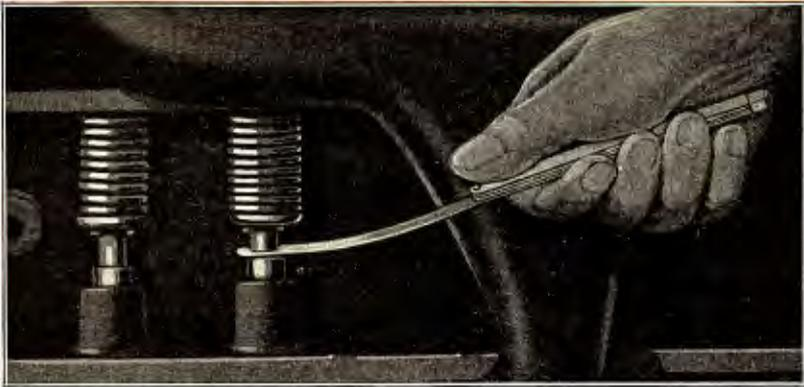

Fig. 225
- 372** After grinding the valves, the clearance between ends of push rods and valves should be checked. This can be done by inserting thickness gauges (See Fig. 225) between ends of valves and push rods. The clearance should not be greater than $\frac{1}{32}$ " or less than $\frac{1}{64}$ ".